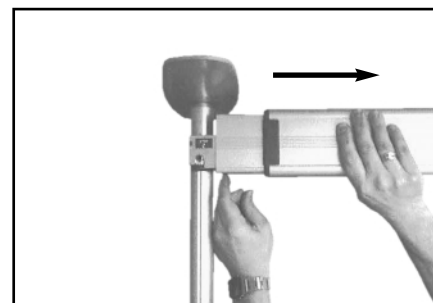

Figure 28
7. Using a step ladder, reach under the section of the remaining rail labeled "Step 2" and pull the blue tab away from the post slightly to release the lock on the rail (Figure 28).